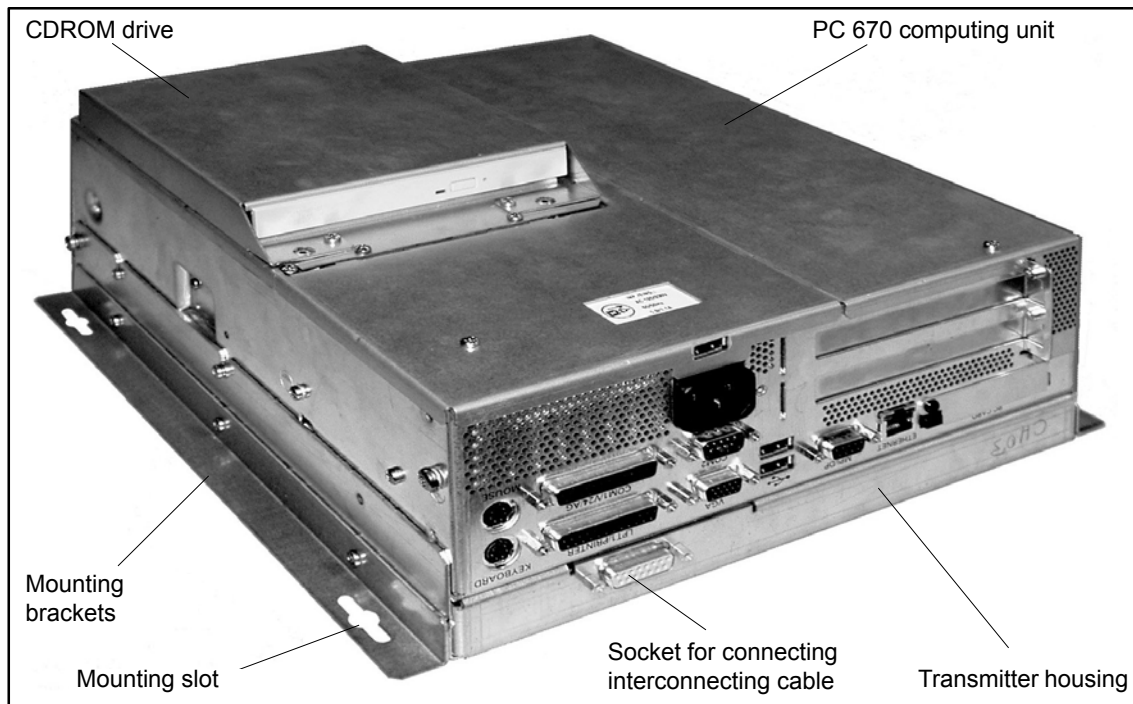
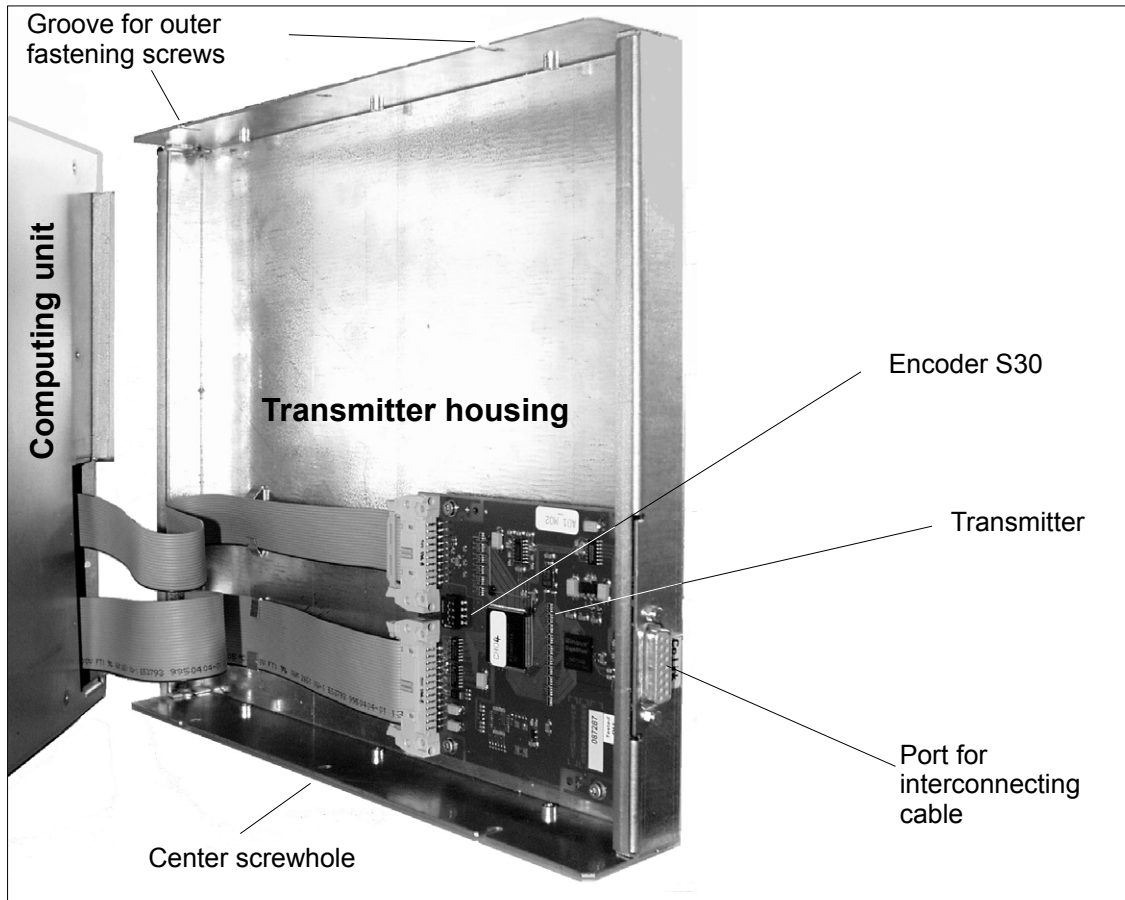

Figure 8-1 PC 670 computing unit in distributed configuration (230 V power supply) including transmitter
Figure 8-3 Transmitter in opened transmitter housing
Figure 8-1 shows a PC 670 computing unit (distributed configuration) with the transmitter fitted between mounting brackets.
The transmitter boards integrated into the housing are shown in figure 8-3.
The device is fitted with the help of four elongated holes in the mounting brackets (refer to Figures 8-1 and 8-2).
2. Loosen the four outer fastening screws slightly (Figure 8-1) and and remove the two center fastening screws of the transmitter housing (Figure 8-3).